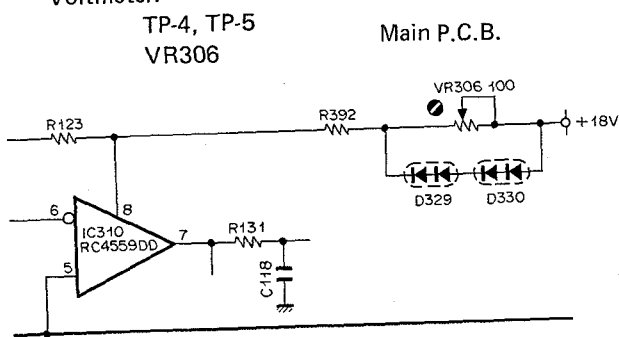

Fig. 4.2.1 Phono Eq. Amp. DC Offset Adjustment
- (1) Short Phono Input Jacks with shorting plugs (of which positive and negative sides are shorted).
- (2) Refer to Fig. 4.2.1. Connect a DC Voltmeter to Test Point TP-4, and adjust VR306 to obtain  $-0.5\text{ V}$  (to  $-1\text{ V}$ ) on the DC Voltmeter.
- (3) Connect a DC Voltmeter to Test Point TP-5, and check to insure that the level is within  $-0.5\text{ V}$  to  $-1\text{ V}$  on the DC Voltmeter.